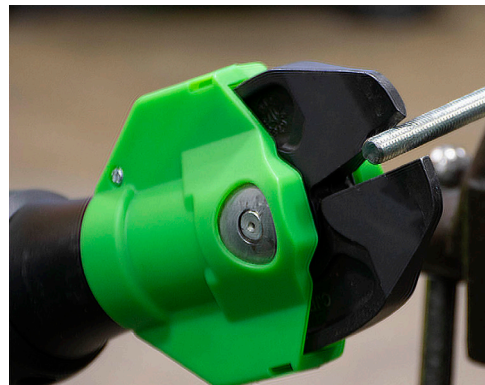

Figure. 1
4. Maneuver the cutting head around the material to be cut. Material should be located as far into the jaws as possible for best results (Fig. 1) The cutting head can rotate 350° and move up and down slightly to aid in positioning.